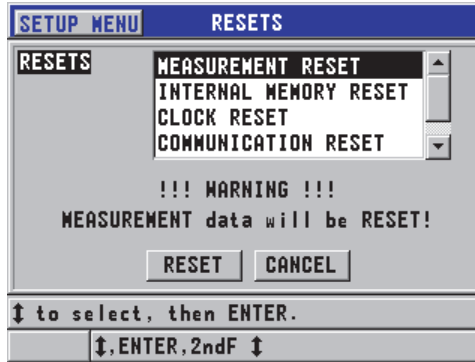

Figure 12-1 Activating a reset function
2. In the **RESETS** screen (see Figure 12-1 on page 203):